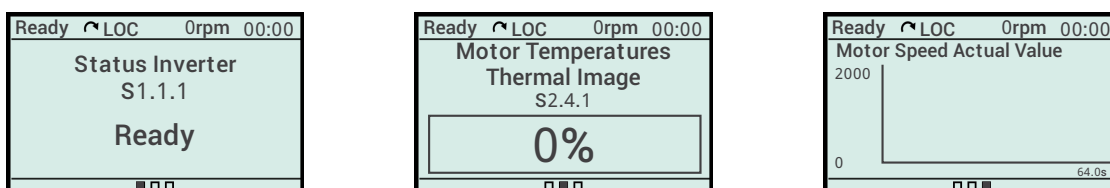

Figure 8.13: View in (a) text, (b) bar and (c) graphic
- **Full screen:** It covers an entire main screen and allows the display of reading variables in the format **text**, **bar** or **graph**. Figure 8.13 on page 8-6 presents an example with the 3 formats.